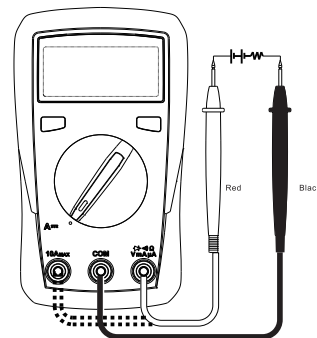

Figure 3
6. DC measurement (see Figure 3)
7. AC measurement (only for 72-13430, see Figure 3)
Please refer to Section 6 "DC Measurement (see Figure 3)"